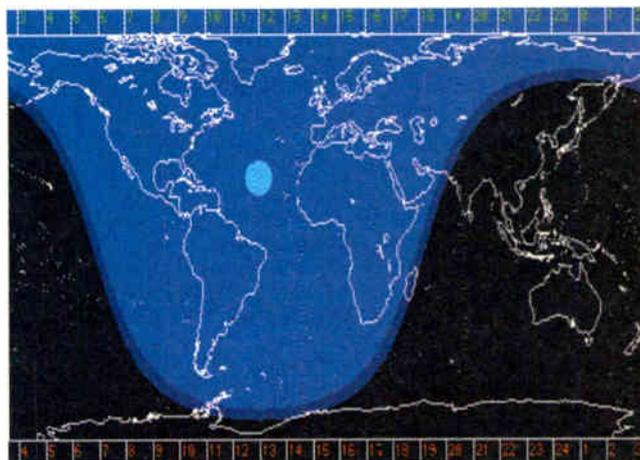
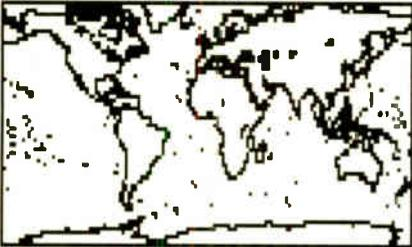

Fig.1. Real-time world clock as displayed by [www.world-clock.org](http://www.world-clock.org).
Fig.2. The image in Fig.1 was inverted to produce a black-on-white outline.
*World clock* produced an astonishing number of web sites, but none that showed the display looked for. However, one of the sites revealed the screen dump shown in Fig.1. This set the author along a completely different thinking path.
It eventually turned out to be fairly simple. The saved screen dump shown in Fig. 1 was first converted to a black and white image, and then inverted to show black detail on a white background (Fig.2).